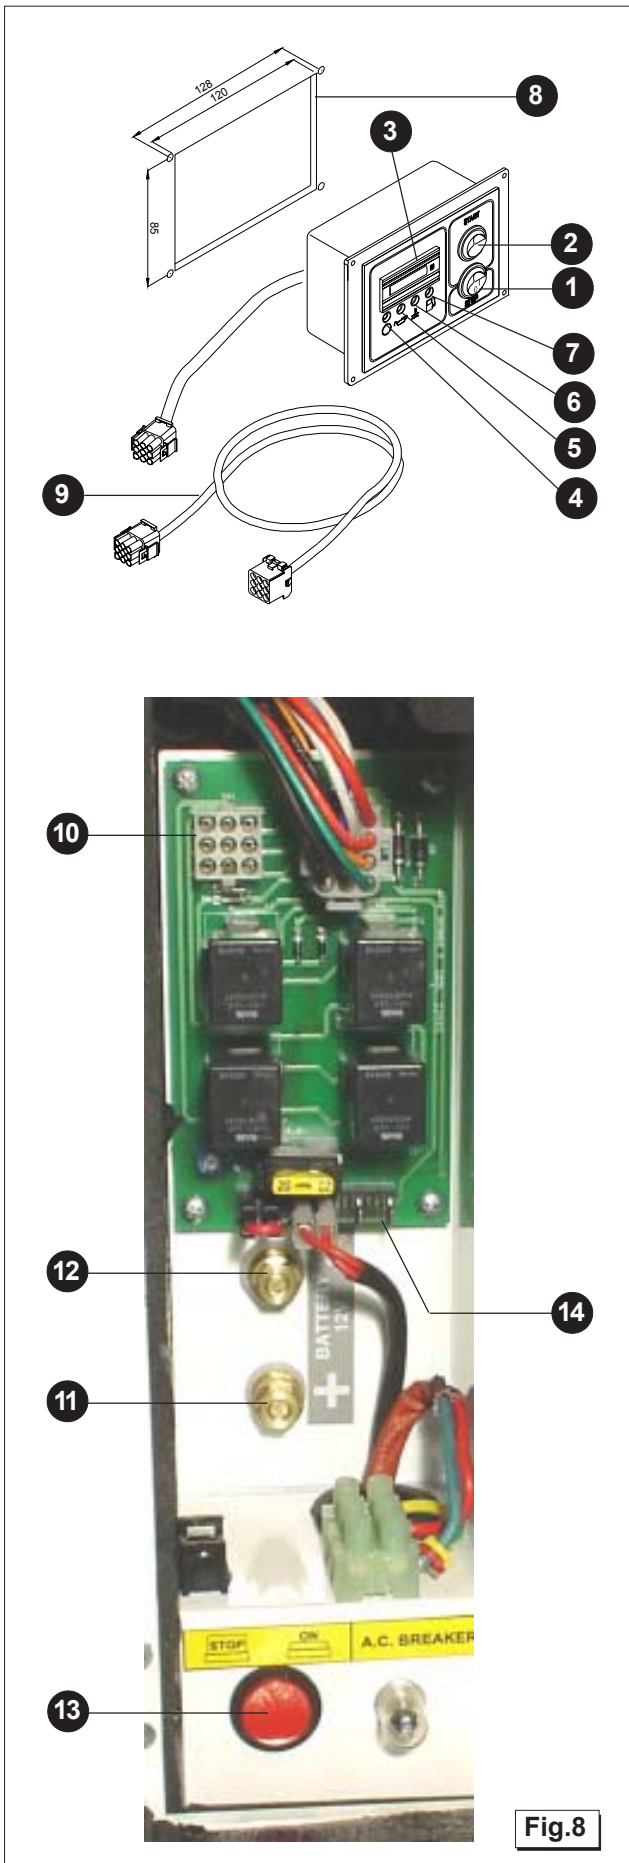

Fig.8
Connect to the positive pole (+) of the battery with a standard cable with adequate cross-section (see TAB1) Connect at the point (Fig. 8 Ref. 11) (+) of the generator.
Connect the point (Fig.8 Ref.12) (-) of the generator directly to the negative pole of the battery or the vehicle chassis, ensuring that the connection is properly made, removing any paint or rust from the contact surface. Protect the contact points with grease.
Choose the most comfortable position for use and fix the panel (Fig. 8). Connect the remote control extension to the control panel (Fig. 8 Ref. 4) and to the connector (Fig.8 Ref.10). The control panel and the extension are supplied standard with the generator. Fig. 8 Ref.8, panel cut-out for control panel housing.
- Position the “**STOP 0/1**” switch (Fig.8 Ref.1) on “**0**”
- Position the red “**STOP/ON**” switch (Fig.8 Ref.13) on “**STOP**”.
- Activate the electric fuel pump and with a wire jumper the terminal “**E**” (see wiring diagram) of the relay board (Fig.8 Ref.14) and the (+) positive pole of the battery (Fig.8 Ref.11). The electric fuel pump starts aspirating fuel.
- Position the red “**STOP/ON**” switch (Fig.8 Ref.13) on “**ON**”, close the engine cowling, and release the emergency button.
Position the “**STOP 0/1**” switch (Fig.8 Ref.1) on “**1**”. Press and hold down the “**START**” button (Fig.8 Ref.2); when the oil light (Fig.8 Ref.5) has gone off, the generator starts running; release the “**START**” button.
The generator is running properly when the green run light (Fig.8 Ref.4) on the control panel is on.
Disconnect the load and let the generator run for about 1 minute. Position the “**STOP 0/1**” switch (Fig.8 Ref.1) on “**STOP 0**”.
The generator can be switched off with the red “**STOP/ON**” switch (Fig.8 Ref.13) onboard the machine, setting it to the “**STOP**” position.
Triggered when the engine oil pressure is too low, the red light comes on (Fig.8 Ref.5).
Each time the “**STOP 0/1**” switch (Fig.8 Ref.1) is positioned on “**1**”, or the generator turns off for another reason, this light comes on.
Triggered when the temperature probes of the engine or the alternator detect high temperatures, the red light comes on (Fig.8 Ref.6)
Triggered when the fuel level probe (if present in the installation, see paragraph 3.5.3) of the external tank goes into reserve, the red light comes on (Fig.8 Ref.7) It does not turn off the generator, but only triggers a visual alarm.